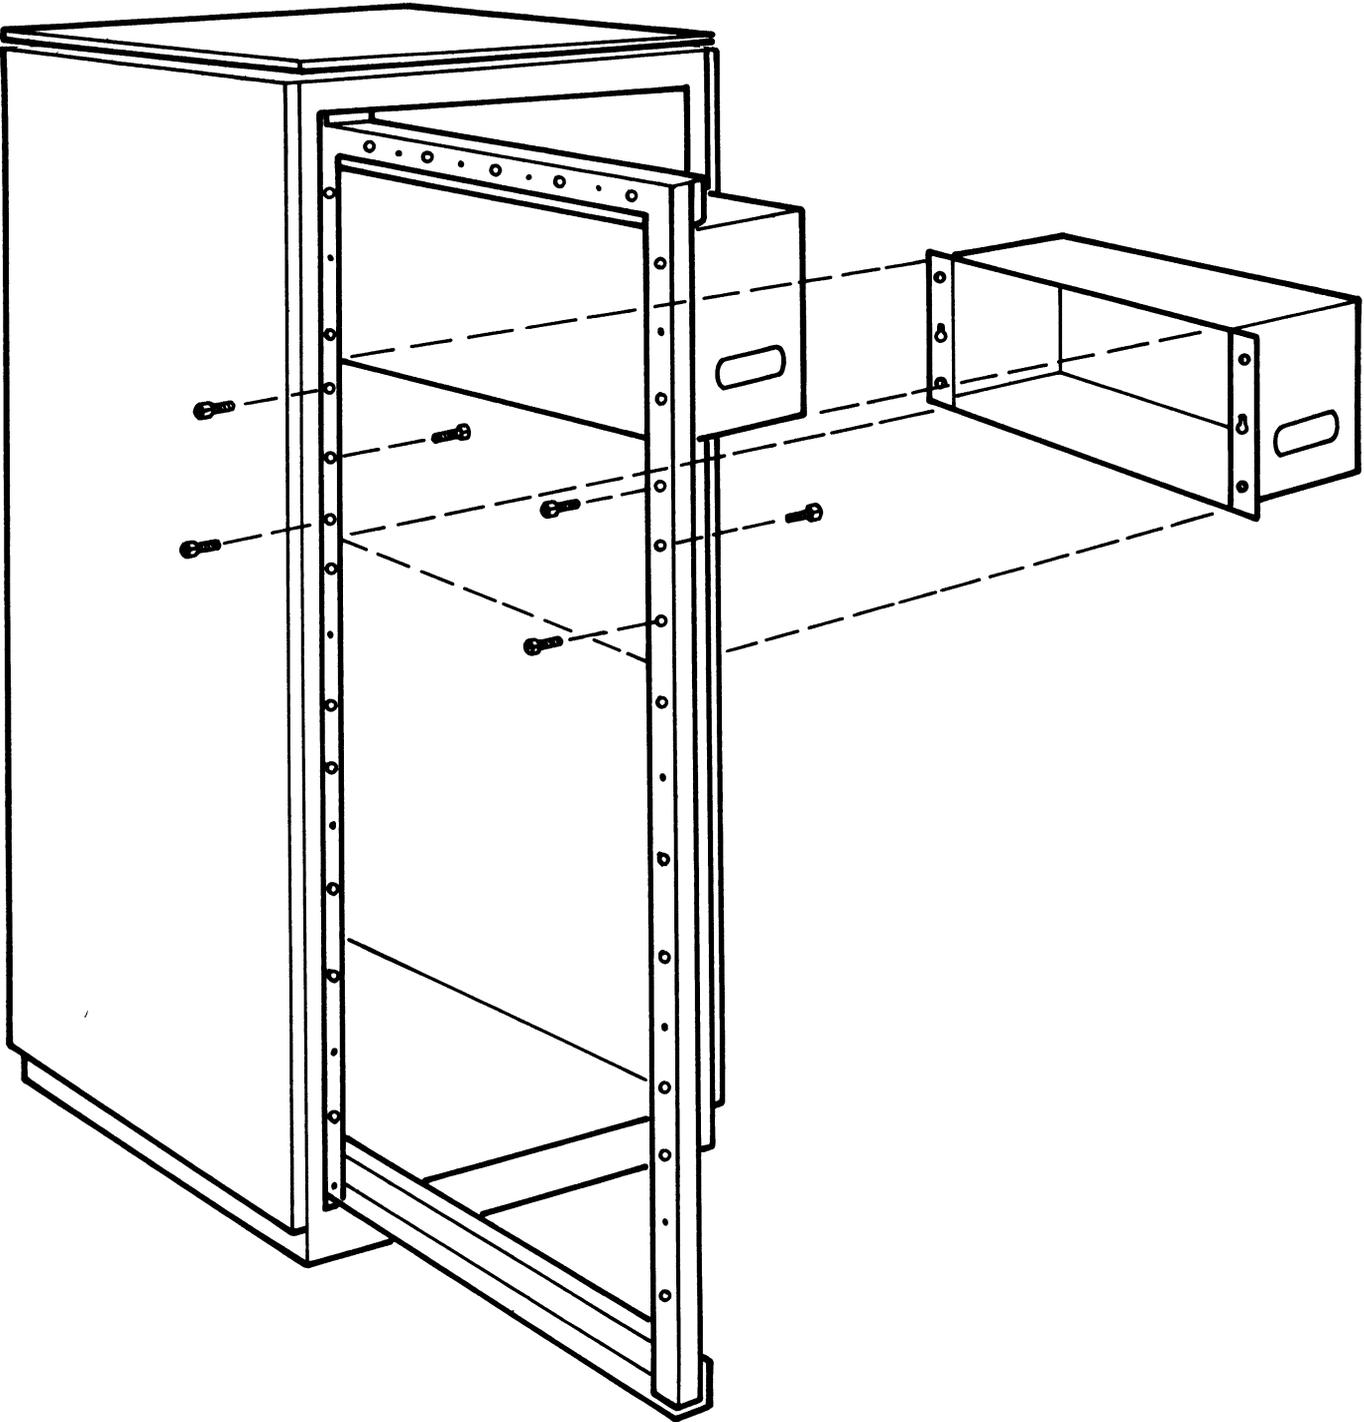

Fig. 6 – Installation of Shelf
3.22 The shelves are fastened in the slides with six self-tapping screws (Fig. 6). Detailed instructions for the installation and removal of shelves and subshelves are given in Section 553-5011-202.